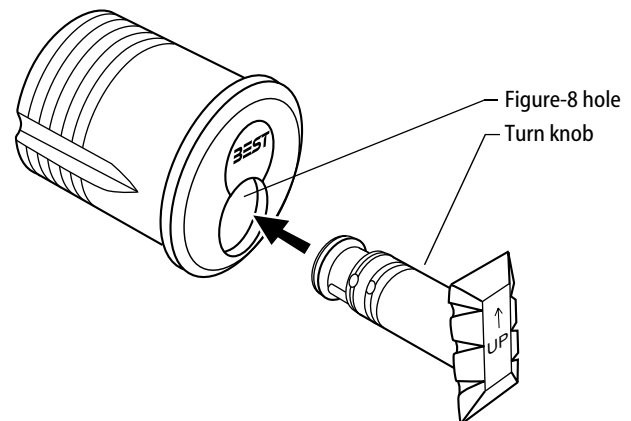

Figure 4 Inserting the turn knob into the figure-8 hole (mortise cylinder housing shown).
- 2 With the arrow in the "up" position, insert the turn knob into the lower part of the figure-8 hole as far as it will go. See Figure 4. Pull gently on the turn knob to make sure that it's fully seated.